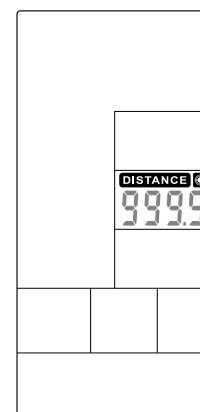

Figure 41
- ① In Standby mode, press Target Distance key and **DISTANCE** will light up, along with a long sound for 1s.
- ② DISTANCE value is flashing, press UP and DOWN to adjust (Figure 41). Press ENTER to confirm meanwhile buzzer beeps 1s and **DISTANCE** lasting lighting up.